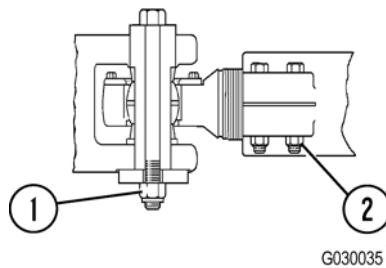

FIGURE 40-6.
5.	<p>STEERING LINKAGE - Check the torque on pin retaining nuts (1, Figure 40-6) on the steering linkage - 712 N·m (525 ft lbs). Check the torque on tie rod retaining nuts (2) - 420 N·m (310 ft lbs).</p>